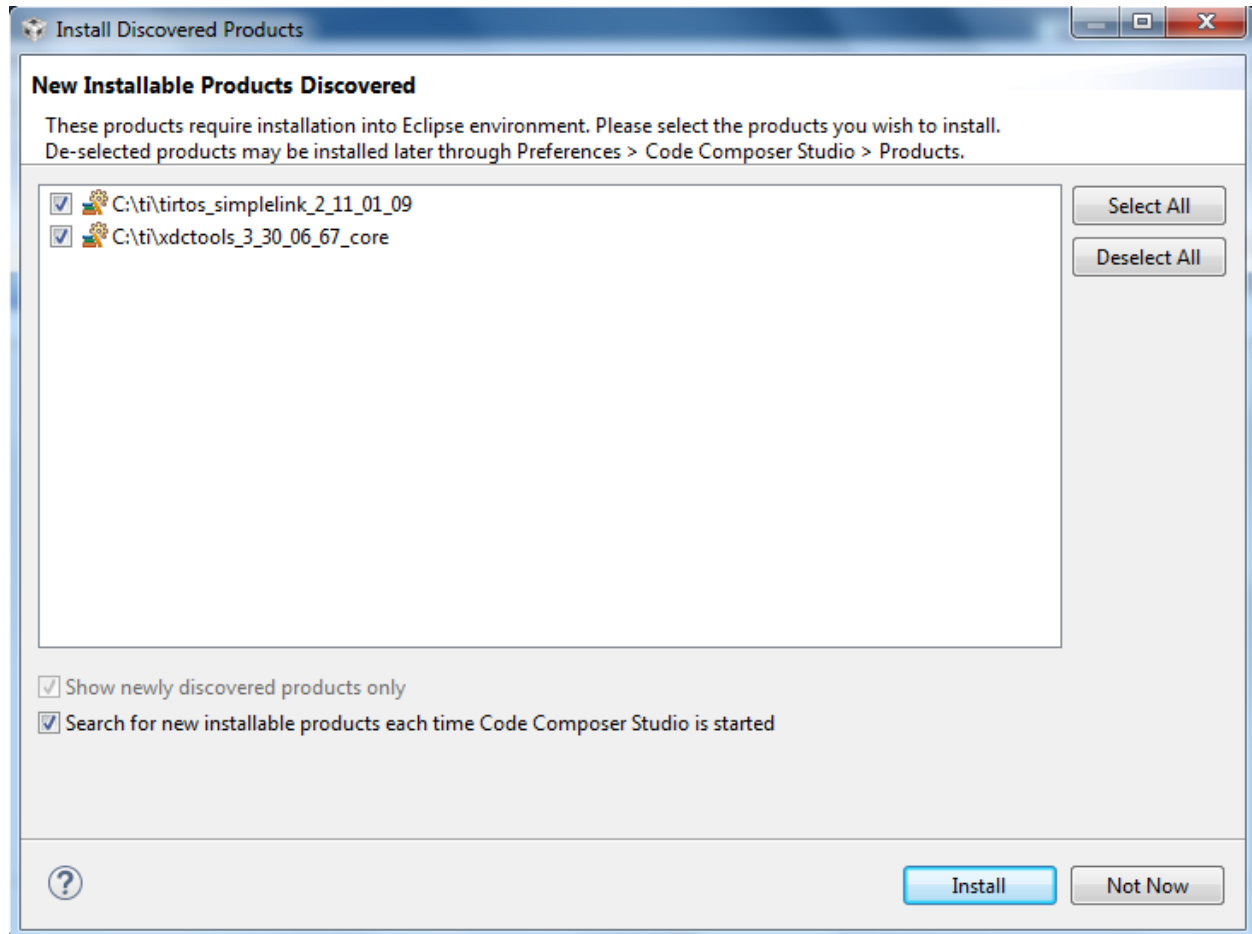

Figure 26, Install Discovered Products.
- h. CCS should detect new installable products (Figure 26). Click Install.